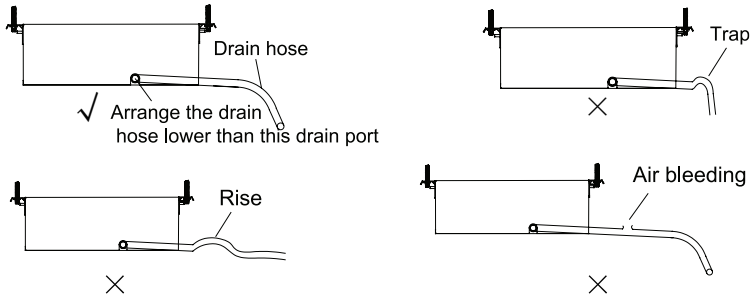

Fig.23
- (1). Install the drain hose with downward gradient (1/50 to 1/100) and no risers or traps are used for the hose.(Fig.23)
- (2). Be sure there is no crack or leak on the drain hose to avoid the formation of air pocket.(Fig.23)